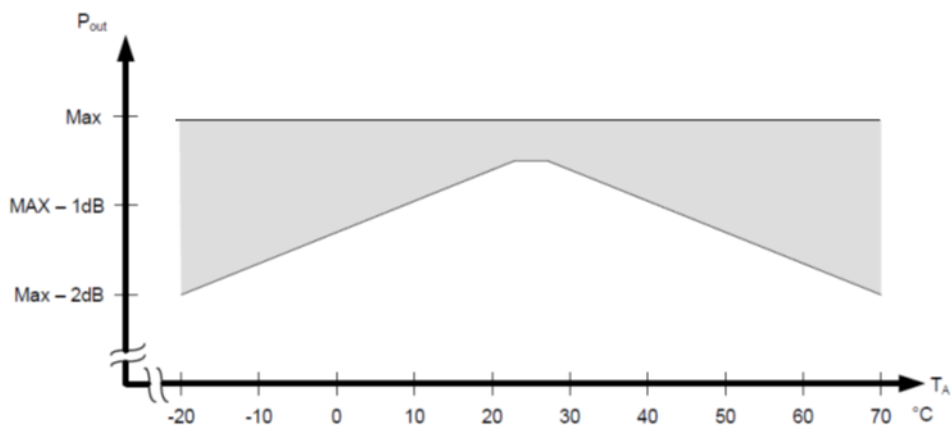

Figure 3-1: Pout vs ambient temperature
- 2) TX output power varies with temperature as shown in Figure 3-1